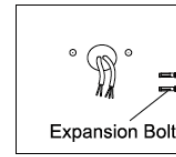

Fig. 19
2. Knock expansion bolts into wall (Fig. 19).